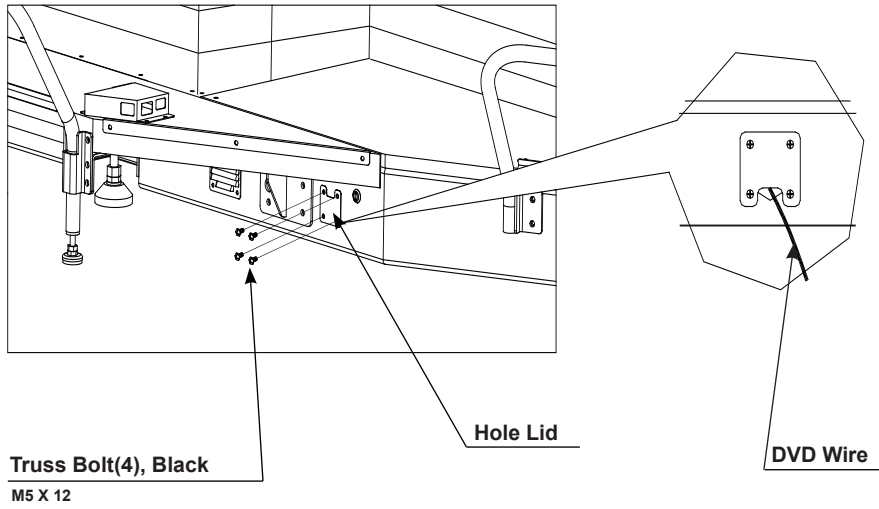

FIG. 6-6c
- 2 Disconnect the CONNECTORS connected to the MICRO SW as shown in figure 6-5b. Look at figure 6-6c and turn the MICRO SW in the counter clockwise direction to remove it.